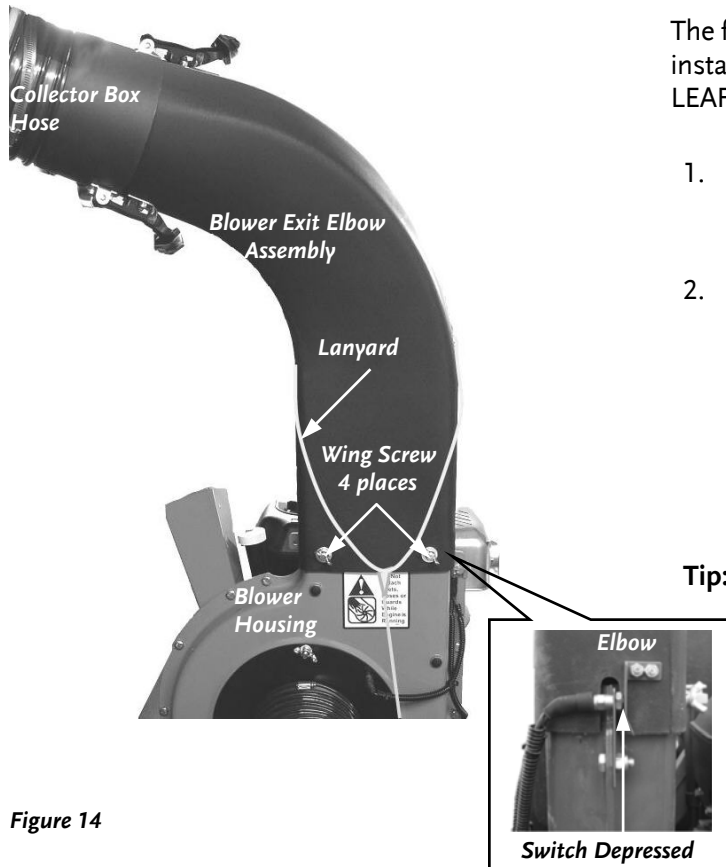

Figure 14
1. Install the Blower Exit Elbow Assembly on top of the Blower Housing with the elbow pointing toward the Collector Box (**Figure 14**).
2. Align the hood of the Blower Exit Elbow Assembly to ensure that the Safety Interlock Switch is depressed (**Figure 14**), verify the position of the Lanyard as shown, and then install a Lock Washer and Flat Washer over each of the four (4) 5/16" x 1/2" Wing Screws and hand tighten them to the Blower Housing (**Figure 14**).